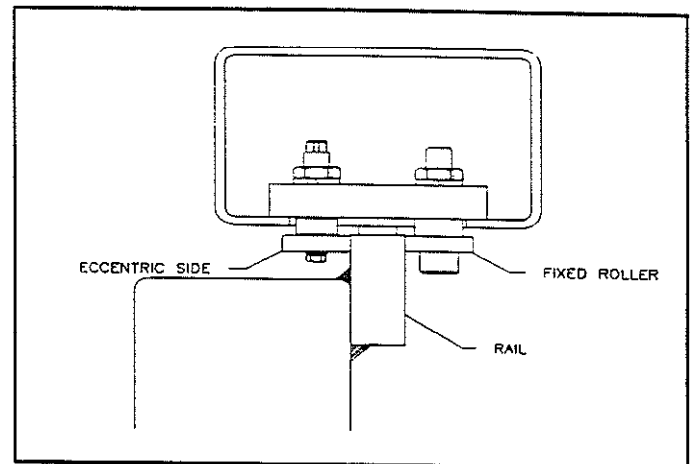

Figure 4.3 Guide Roller Adjustment
2. Remove the fixed stop unit on the left wheel case assembly temporarily. Refer to Figure 4.3.